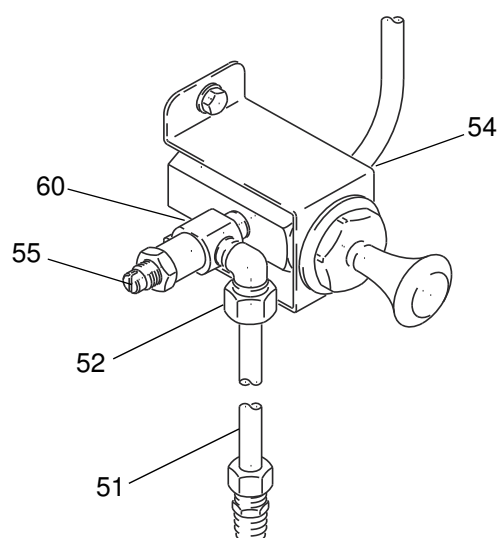

FIG. 5
Screw the restrictor valve (55) into the push-pull valve (60) as shown in FIG. 5. Mount the valve on the wall at a convenient height, using the mounting bracket (54). Connect the master air supply to the valve. Screw the elbow fitting (52) into the 1/8 npt(f) inlet of the restrictor valve. Push one end of the copper tube (51) into the elbow and tighten the fitting. Screw the straight fitting (53) into the base (17) of the elevator. Push the other end of the copper tube (51) into this fitting and tighten the fitting.